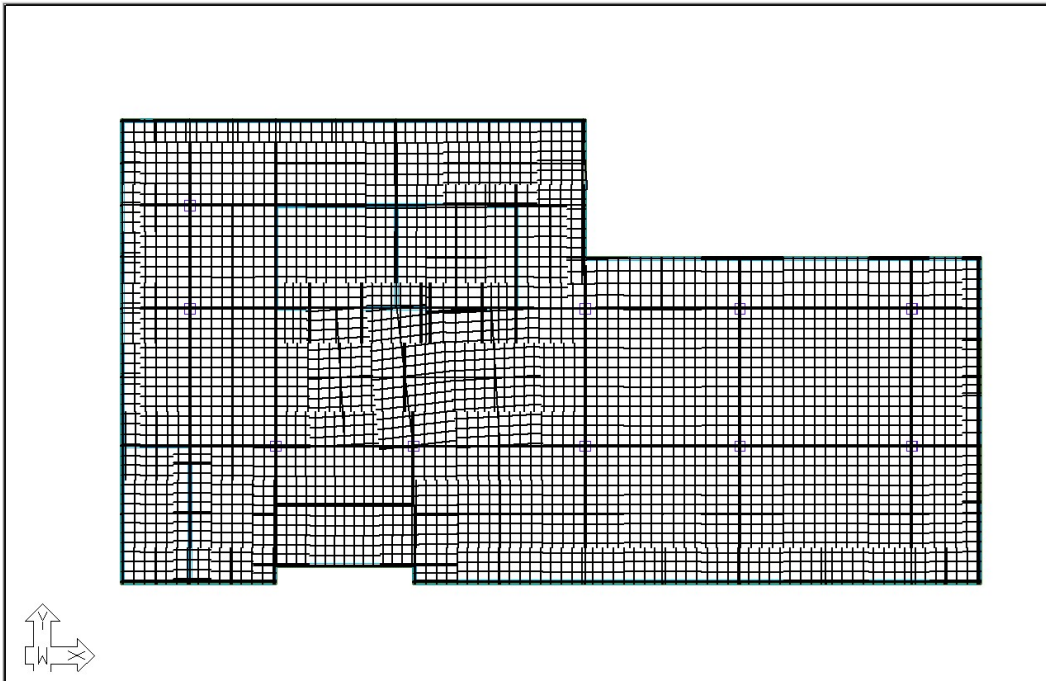

Figure 4.2-2
- Go to **Floor Design | Section Design | Generate Sections New** . The program will automatically generate tributaries and design section cuts for the support line (**Figure 4.2-2**).